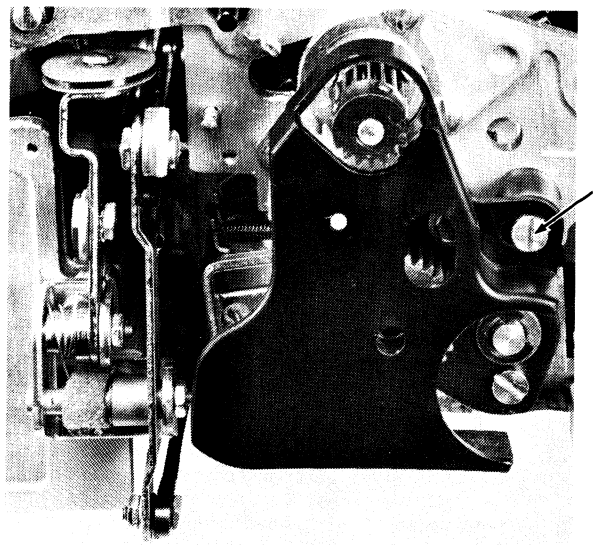

Figure 4-40. Print Feedback Removal (Left Side of Printer)
1. Remove the gear guard (No. 1, Figure 4-40).